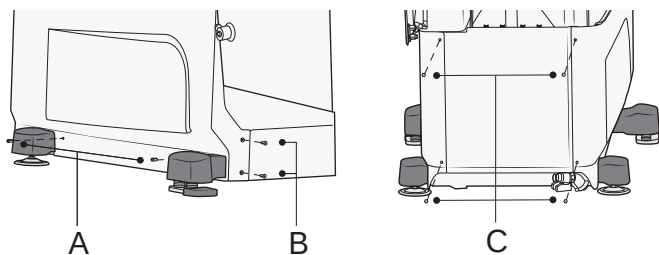

Figure 137
1. Attach the inner side panels with the two screws (A) on the sides and the two screws (B) at the head end, then lift straight up. See Figure 137.
2. Raise the bathtub to mid level. At the foot end, attach the four screws holding the inner service cover (C). See Figure 137.